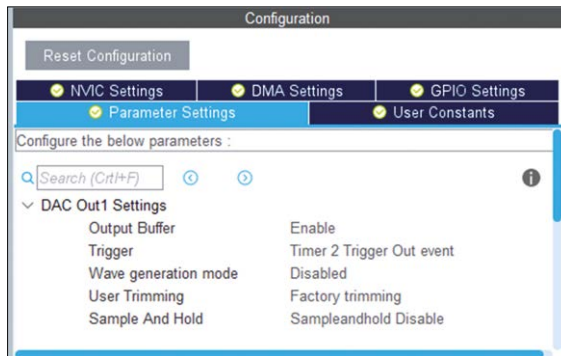

Figure 9.13: Parameter settings.
- In **Parameter Settings**, enable the **Output Buffer**, set the **Trigger** to **Timer 2 Trigger Out event** (Figure 9.13).